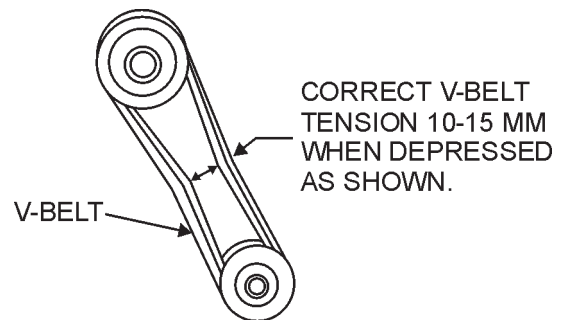

Figure 8. V-Belt Tension
2. The V-belt tension is proper if the V-belt bends 10 to 15 mm (Figure 8) when depressed with finger at midway between the clutch and vibrator pulley shafts.